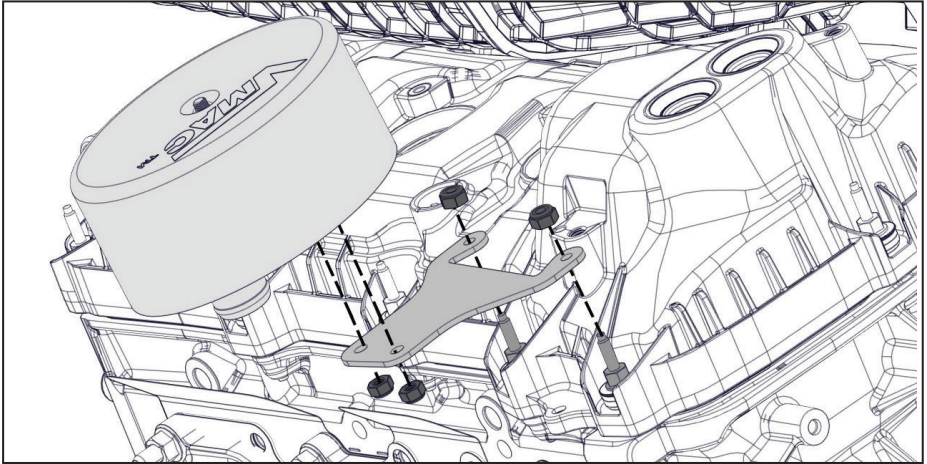

Figure 60 — Air filter and bracket
- Mount the VMAC air filter assembly to the supplied bracket using the supplied M6 nylon lock nuts (Figure 60).
- Using the (x2) supplied M5 nuts, mount the VMAC air filter and bracket assembly to the front valve cover studs (Figure 60).